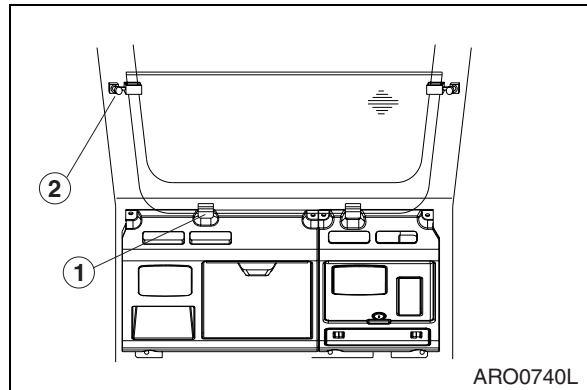

Figure 96
- Set bottom window in rubber holders (1, Figure 96) behind operator's seat. Secure window to cab with left and right knobs (2).